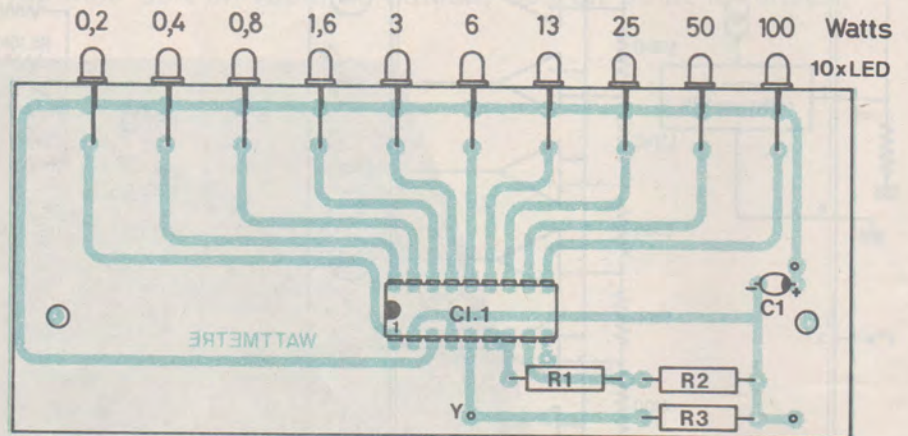

Figure 5
- Alimentation, **figure 5** ;